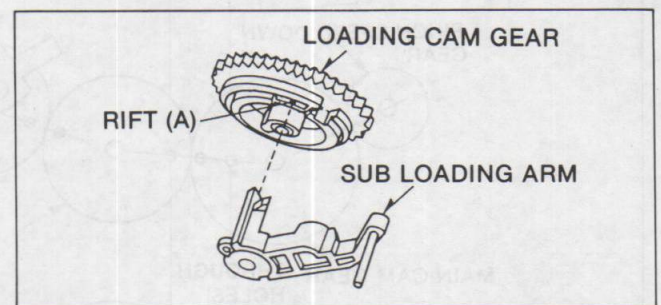
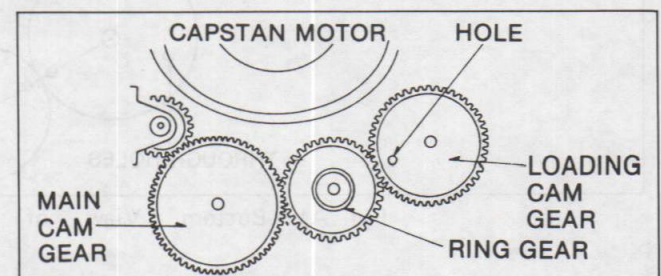

Fig. A5
Fig. A6
1. Install the Loading cam Gear so that the end of Sub Loading Arm comes to the rift (A) of Loading Cam Gear as shown in Fig. A5. Rotate the installed Loading Cam Gear so that small hole on Loading Cam Gear comes to around centre of Ring Gear as shown in Fig. A6.